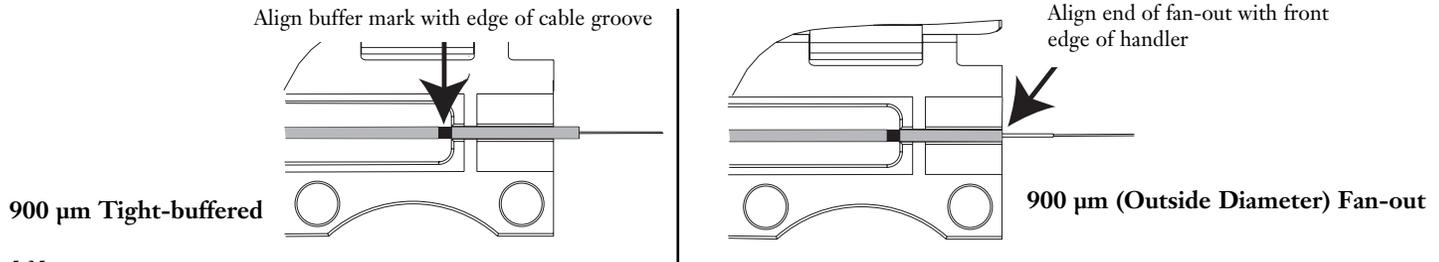

Figure 5-35
5.7-3 Align the fiber in the handler as indicated for the connector/fiber type being installed (Figures 5-35 and 5-36).